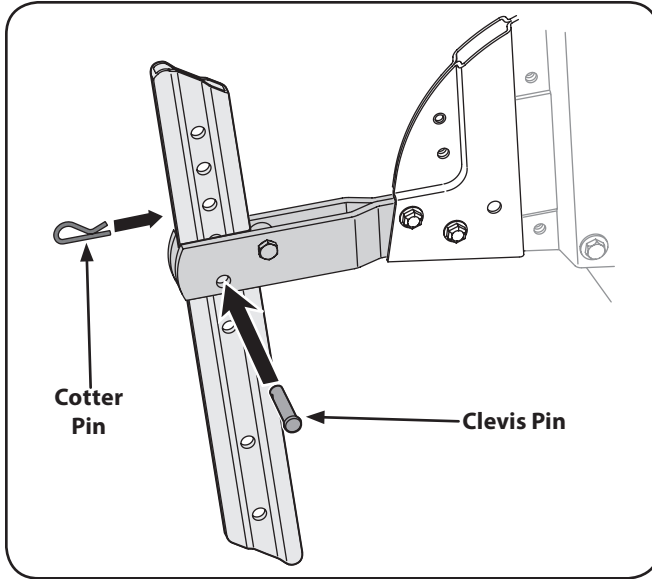

Figure 3-7
4. Insert the depth stake into the depth gage bracket assembly as seen in Fig. 3-7.